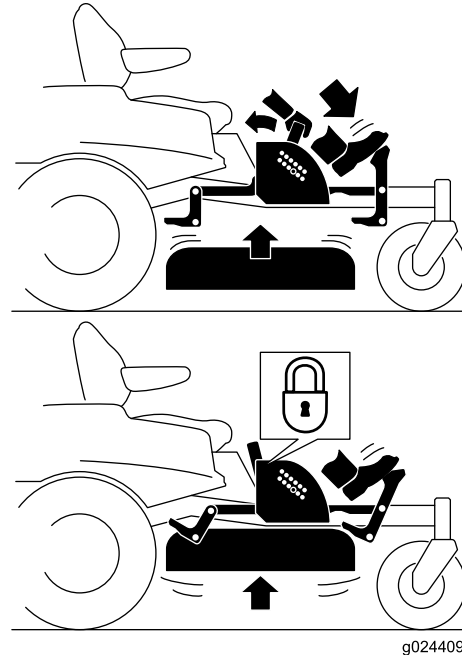

Figure 23
- Press the pedal down to raise the deck; continue to press the pedal until the deck is locked in the transport position (Figure 23).
- Push on the deck lift pedal with your foot and pull the transport lock handle rearward to disengage the transport lock (Figure 23).
4. Push on the deck lift pedal with your foot and pull the handle rearward to disengage the transport lock (Figure 23).